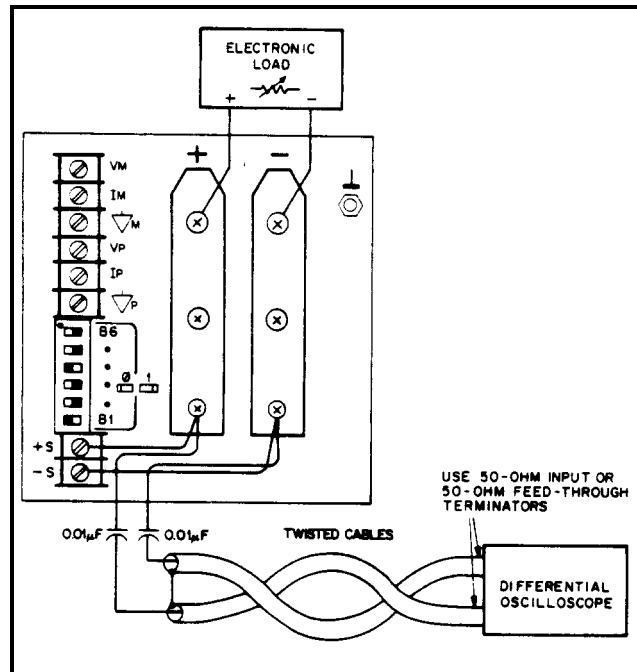

Figure 2-7. Peak-To-Peak Measurement Test Setup, CV PARD Test
Peak Measurement Procedure. Figure 2-7 shows the interconnections of equipment to measure PARD in Vpp. The equipment grounding and power connection instructions of Paragraph 2-36 apply to this setup also. Connect the oscilloscope to the + S and - S terminals through $0.01\mu\text{F}$ blocking capacitors to protect the oscilloscope's input from the unit's output voltage. To reduce common-mode noise pickup, set up the oscilloscope for a differential, two-channel voltage measurement. To reduce normal-mode noise pickup, use matched-length, 1 meter or shorter, 50Ω coaxial cables with shields connected to the oscilloscope case and to each other at the other ends. Proceed as follows:
- Connect the test equipment as shown in Figure 2-7. Operate the load in constant resistance mode (Amps/Volt) and set resistance to maximum.